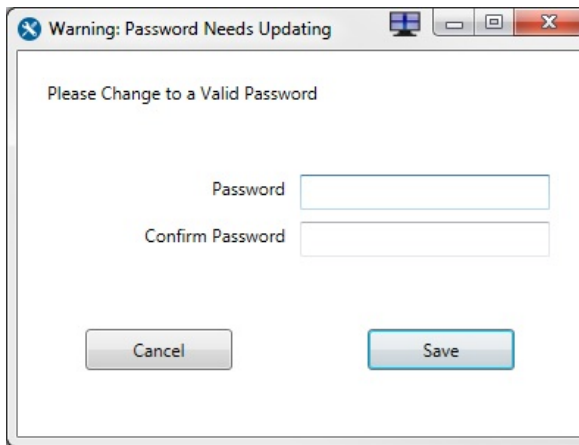

Figure 28 – Configuration Manager: Changing the password for the factory default Admin account
- **Supervisor** – If a user logs in as a Supervisor, a screen for the Configuration Settings part of the application is displayed. See Figure 28. Before a user can log in as a Supervisor, an Admin must create a Configuration Manager Supervisor account for them.
When a user logs in to Configuration Manager as a Supervisor, the Configuration Settings screen is displayed. See Figure 28.